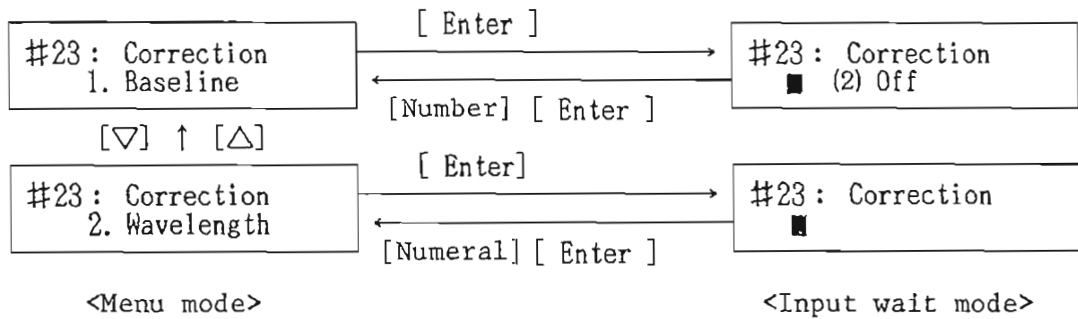

Fig. 11-1 LCD display and key operation in
The menu mode of "Method 23" in Fig. 11-1 is caused.
The parameters in Fig. 11-1 mean:
- ① Press the [Enter] key when a baseline is displayed. The display changes to the input wait mode in Fig. 11-1. The cursor [▷] or [◁] changes the display as follows.
- ① Measure the known sample in "Method 4".
- ② Set the wavelength to the known peak position by pressing keys [Control] [D] or [CONTROL] [L].
- ③ Call "Method 23" and select "2. Wavelength" to cause the wavelength input wait mode in Fig. 11-1.
- ④ Enter the known peak wavelength (true value). With the input the menu mode is resumed.